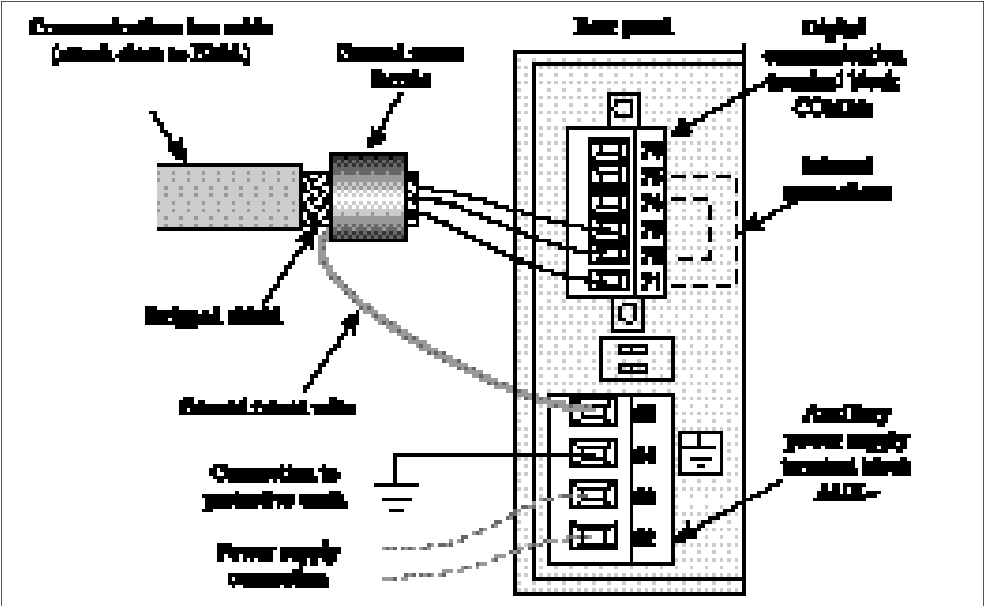

Figure 2-8 Communications bus wiring and ground shielding
To simplify grounding of the communications cable shield, a **metal ferrule** may be used, connected to the protective earth by a return wire (see figure 2-8).
- **Insert** the cable into the ferrule so that the shield is in contact with the metal ferrule (see figure 2-8).
- **Crimp** the ferrule to the ground return terminal, terminal **65 (PE)** (see figure 2-8).